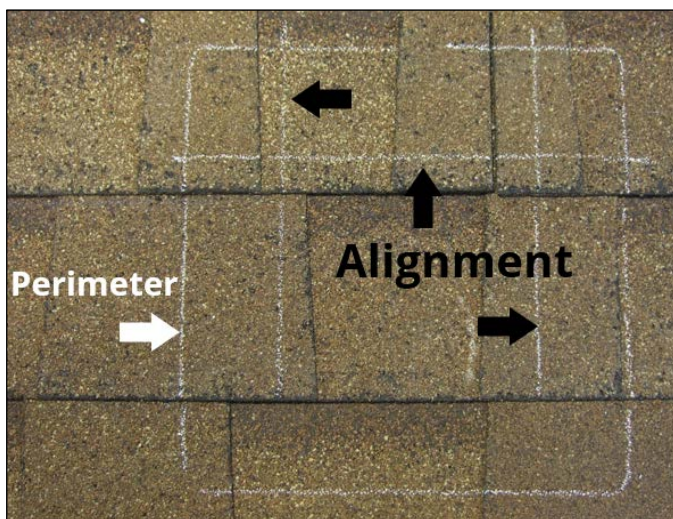

Fig. J2
3. Remove the flashing and use a straight edge to trace the lines between the alignment marks onto the shingles (Fig. J2).